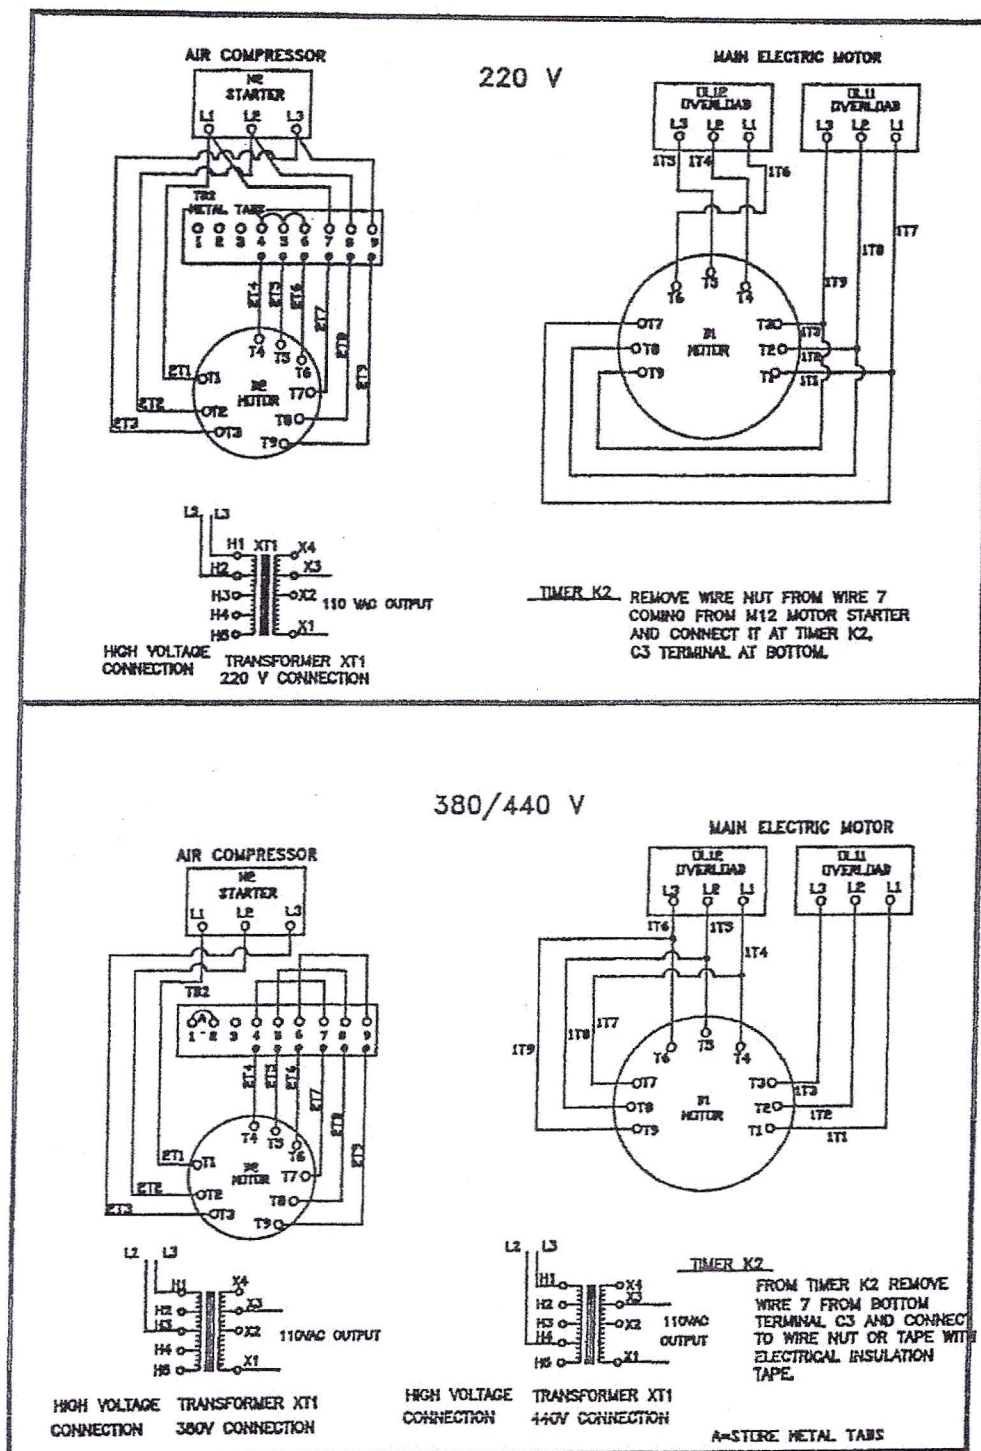
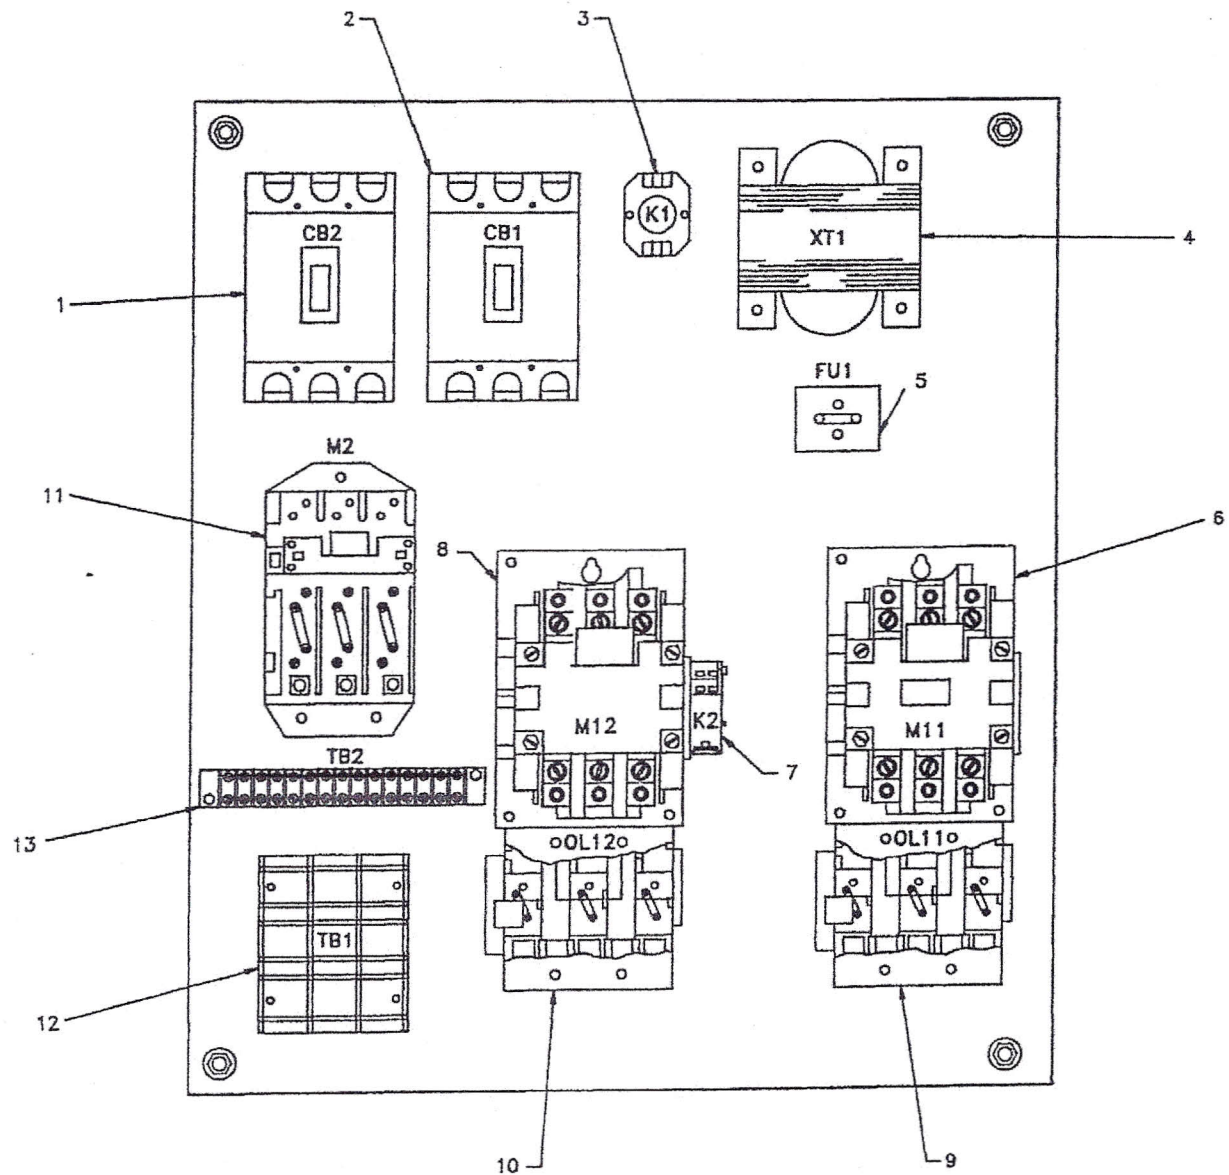

Figure 8-1. Electrical Conversion
Figure 8-2. Electrical Panel Controls
a. **Operation At 220V or 380/440V.** The unit is designed for 220V operation and can be converted to 380 or 440V operation. All conditions are explained below and shown in Figure 8-1. Prior to usage, the user should check the electrical panel against Figure 8-1 to positively determine what state of operation (220, 380 or 440) the unit is currently in. The
entire conversion can be accomplished within the electrical panel (Figure 8-2).
(1) Main electric motor B1 (Figure 8-1).
(c) From timer K2 (7, Figure 8-2) remove wire 7 from the bottom terminal C3 and connect to the wire nut supplied, or tape the end with electrical insulation tape.
(2) Air compressor motor B2 (Figure 8-1).
(b) On motor starter M2 (11, Figure 8-2) disconnect (at starter end only) wires coming from TB2 terminal 9, terminal 8, and terminal 7. Connect loose end of terminal 9 wire to TB2 terminal 6, terminal 8 to terminal 5, and terminal 7 to terminal 4 respectively (See Figure 8-1).
(3) Transformer XT1 (4, Figure 8-2).
(4) When completed, wiring should be as shown on Figure 8-1, 380/440V operation.
(1) Transformer XT1, (4, Figure 8-2).
(2) Air Compressor Motor B2 (Figure 8-1).
(a) On TB2, (13, Figure 8-2) disconnect wire on terminal 4 and reconnect at motor starter M2 line 1 position (Figure 8-1).
(3) Main Electric Motor B1 (Figure 8-1).
(c) Remove wire nut from wire 7 coming from M12 motor starter and connect it at timer K2 (7, Figure 8-2) C3 terminal at the bottom.
(4) When completed, wiring should be as shown on Figure 8-1, 220V operation.
Electrical Panel controls (shown in Figure 8-2) description is the same as given in Table 4-2.